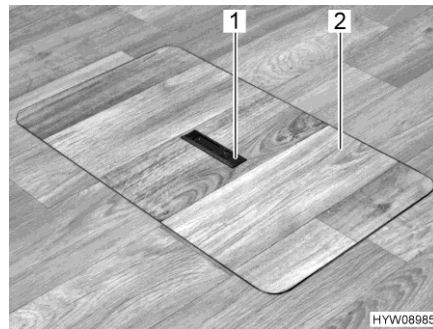
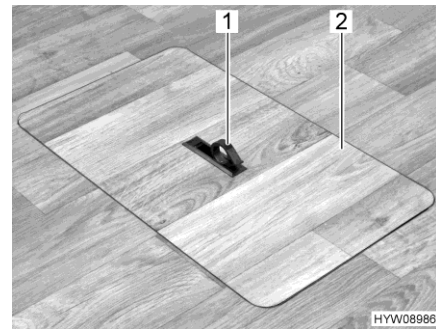

Fig. 88 Floor storage compartment cover (handle recessed)
Fig. 89 Floor storage compartment cover (handle swung out)
- Push one side of the grip plate (Fig. 88,1) downwards. The handle (Fig. 89,1) swivels upwards.
- Remove the cover (Fig. 89,2) upwards.
- Insert the cover (Fig. 89,2) in the frame on the floor.